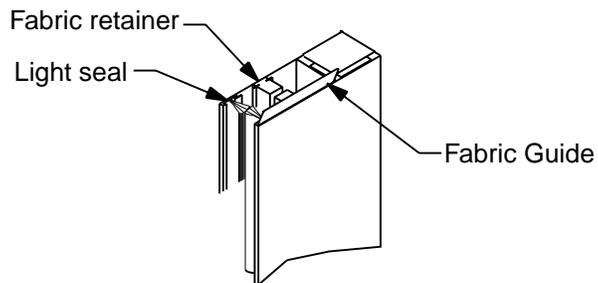

Figure 10
- ① If provided, install side channels so that channel tops are 2" inside headbox, and flush with the ends of the headbox.
- A. Insert fabric guides in top of side channels (see Fig. 10).